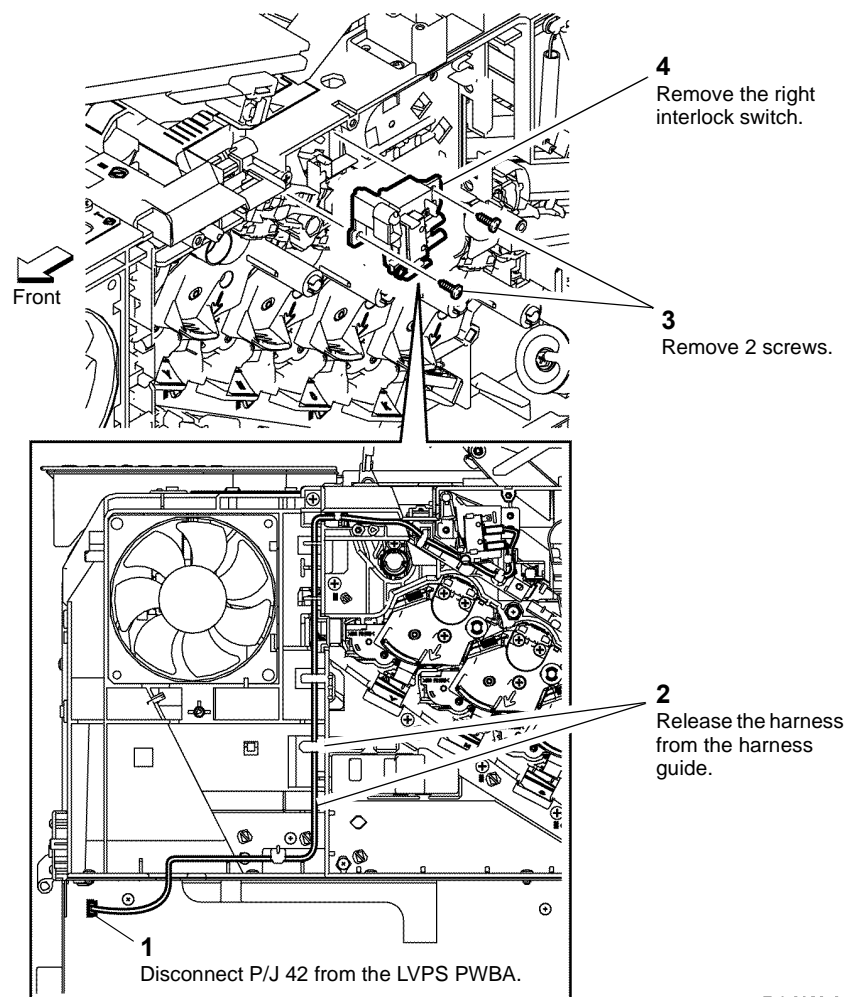

Figure 1 Right interlock switch assembly
3. Remove the right interlock switch assembly, Figure 1.